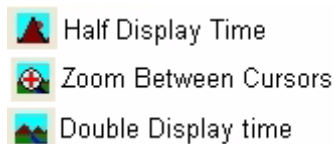

Figure 3-4: Display Time icons in *DataTrax2* Main window toolbar.
- Position **Cursor 1** so that it is over the maximum value in a given cycle, then position **Cursor 2** over the minimum value as shown (Figure 3-4 on page 23). The **Value** reported will be 4V.
The events recorded using *DataTrax2* software may occur over varying time frames. For example, recording the discharge curve of a 9-Volt battery could take hours, while recording the QRS complex in a human electrocardiogram might take only a fraction of a second. *DataTrax2* software allows the recording of both very slow and very fast events while displaying the recorded results in a format that is easily interpreted. To manage the time display in the *DataTrax2* software, we use a parameter called **Display Time**. **Display Time** is the amount of time represented by one full screen of data. When the program opens, the default **Display Time** is set to 10 seconds. **Display Time** can be changed by using the display controls in the toolbar (Figure 3-4 on page 23), or by manually entering a **Display Time** in the place provided at the top of the **Channel** page of the **Preferences** dialog window, which is launched by selecting **Preferences** under the **Edit** menu.